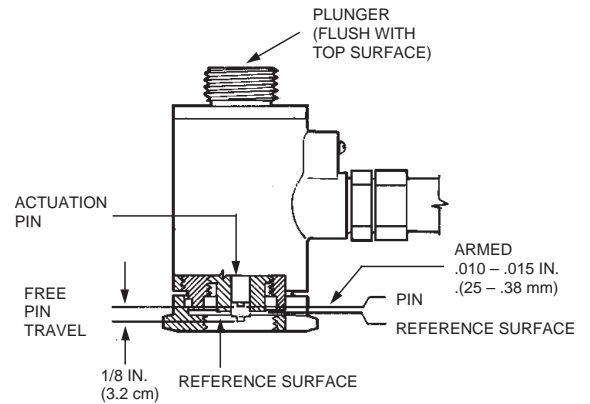

FIGURE 6
- The actuator is armed if the following conditions exist (See Figure 6):